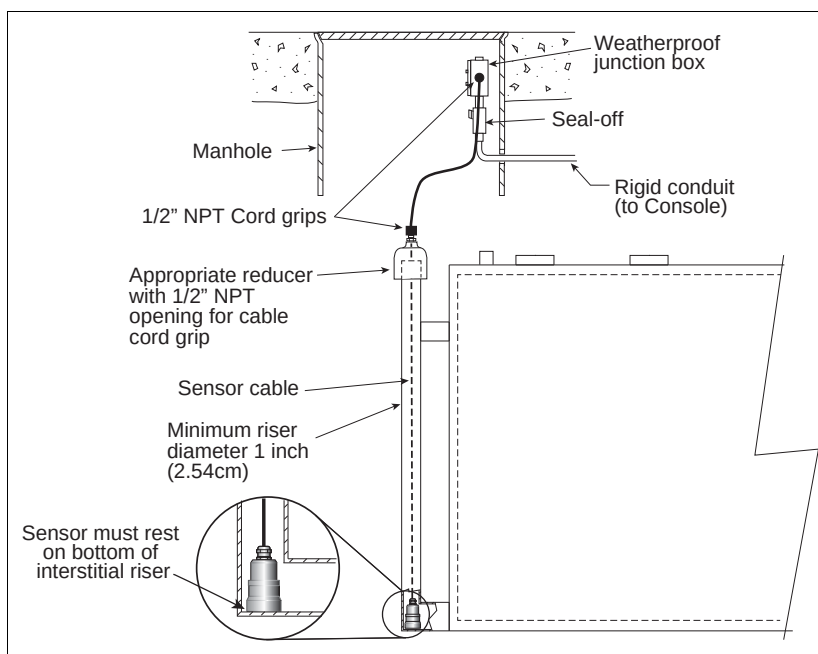

Fig. 8 Example Position Sensitive Interstitial Sensor for Steel Tanks
- Installation example (see Fig. 8) and control drawing 577014-041